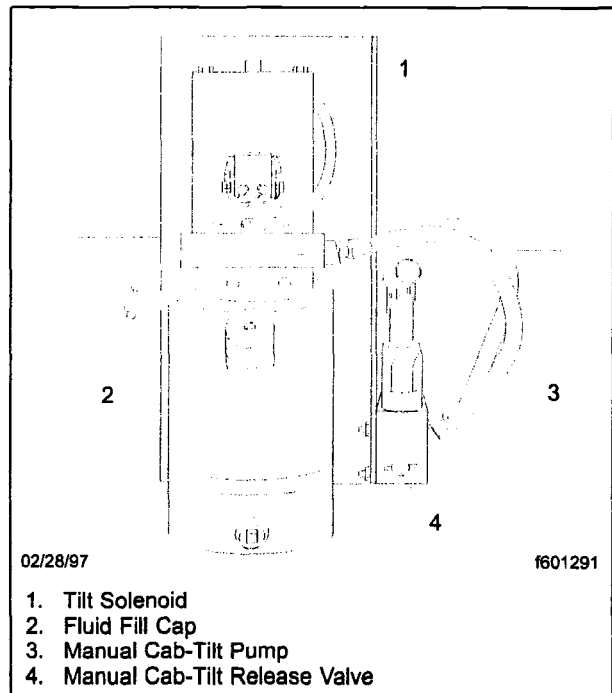

Fig. 2, Cab-Tilt Pump
2. Make sure the pressure is off the tilt cylinders by opening the release valve on the manual pump and leaving it open during installation. See Fig. 2.
3. Release the hydraulic pressure on the tilt cylinders by opening the release valve on the manual tilt pump. See Fig. 2.